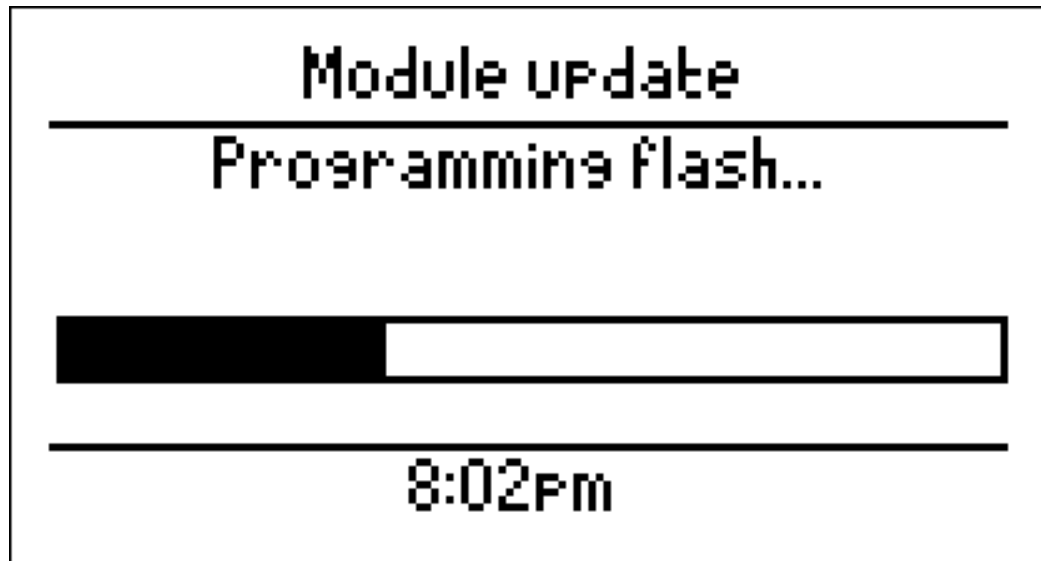

Figure 16 Programming module
3. Wait for the software to be updated into the module. Progress of the update is shown (see Figure 16) on the Base module display.